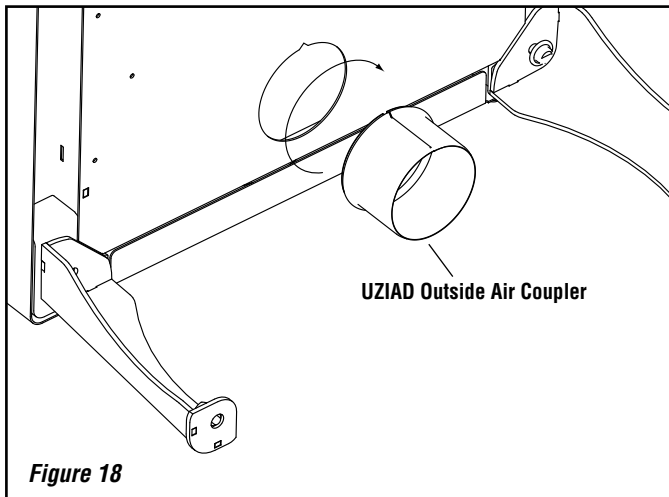

Figure 18
### Through the Wall Outside Air Kit Installation (refer to Figures 18, 19 and 20)
- Install the coupler onto the existing collar on stove (see **Figure 18**).